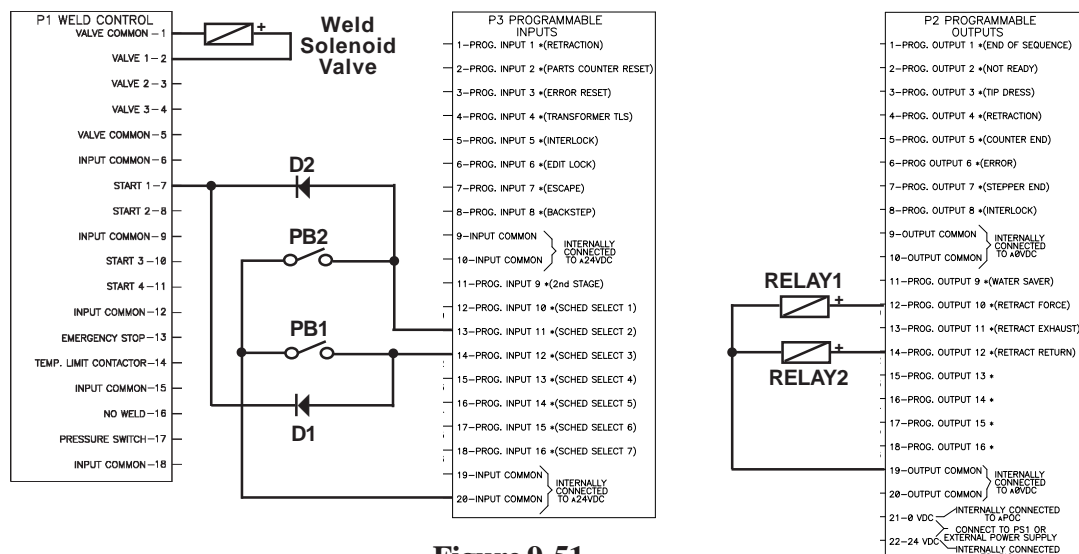

Figure 9-51.
1. Connect the initiation switches PB1 and PB2 to P1 connector as shown in Figure 9-51.
2. Connect diodes to P1 & P3 connectors as shown in Figure 9-51 (D1 and D2 are 1N4002 – ENTRON P/N 170001).
3. Connect the indication relays RELAY1 and RELAY2 to P2 connector as shown in Figure 9-51 (if required).